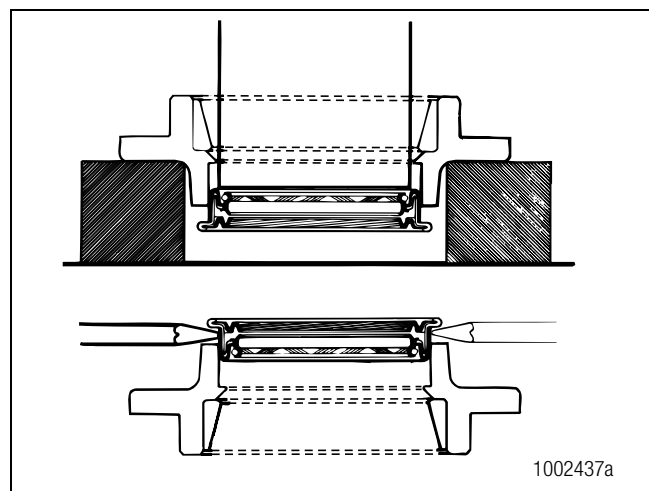

Figure 3.27
- **If a press is not available:** Place a tool with a flat blade under the flange to remove the oil seal from the cage. Figure 3.27.